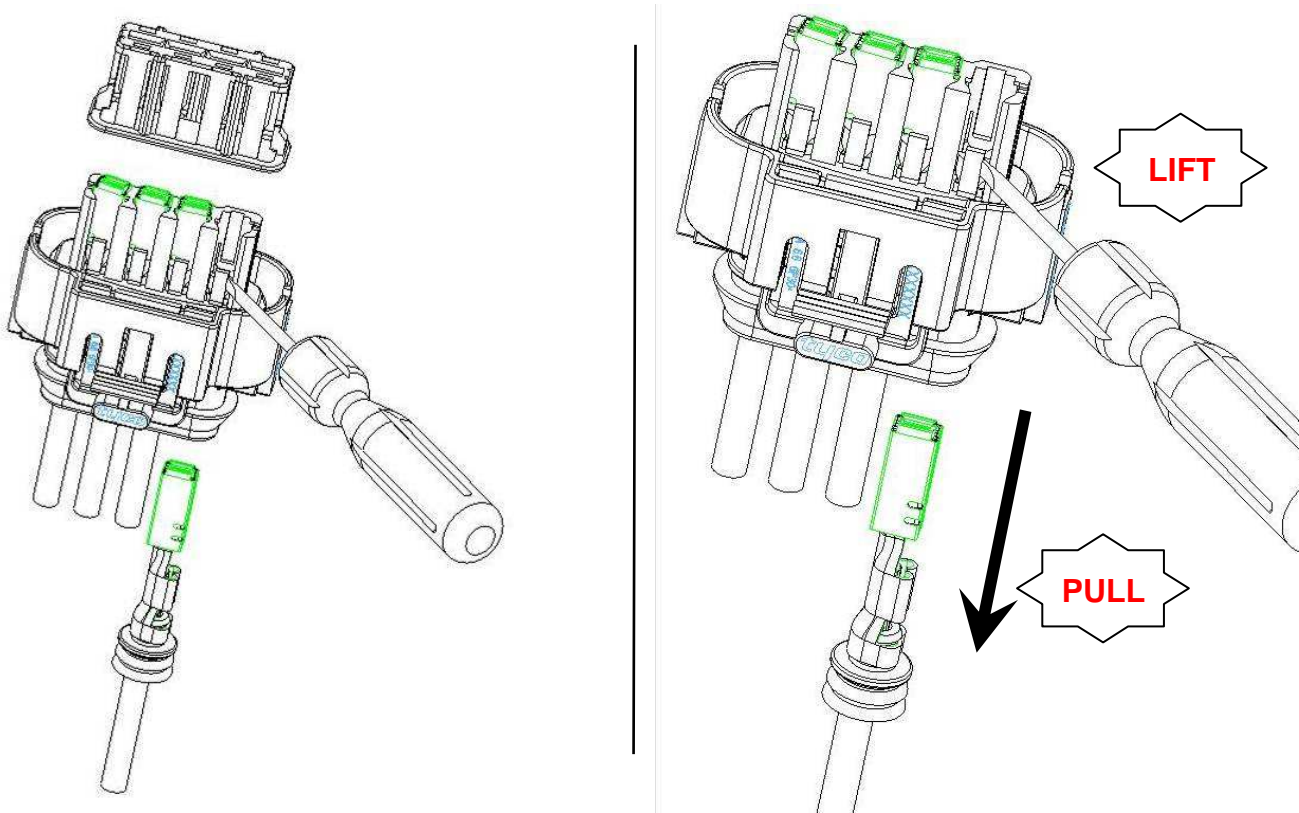

FIGURE 7
- b) Insert the appropriate tool, see Figure 7 to the relevant seats of the cavities, and then pull the contacts in the direction shown by the arrows.